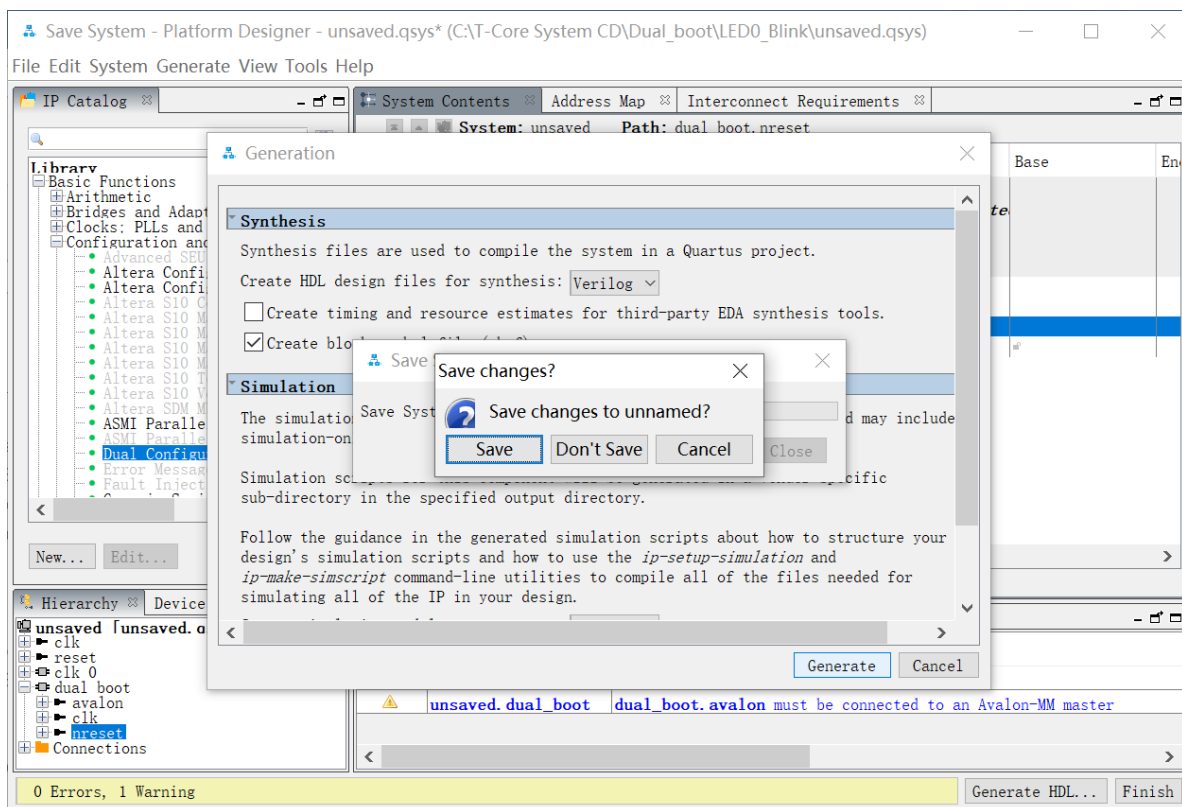
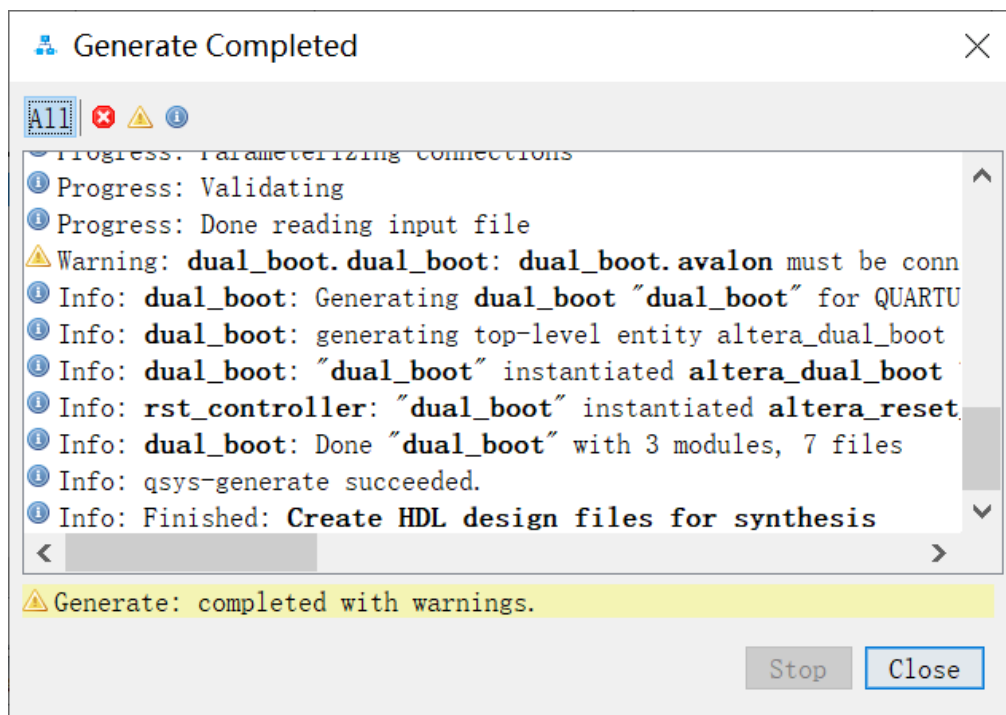

Figure 4-8 Generate and Save Qsys.
Figure 4-9 Generate completed.
- Click **“Generate HDL..”** button and click **Generate** button when popping a window as shown in **Figure 4-8**. Click **Save** it as **dual_boot.qsys** and the generation start. If there is no error in the generation, the window will show successful as shown in **Figure 4-9**.